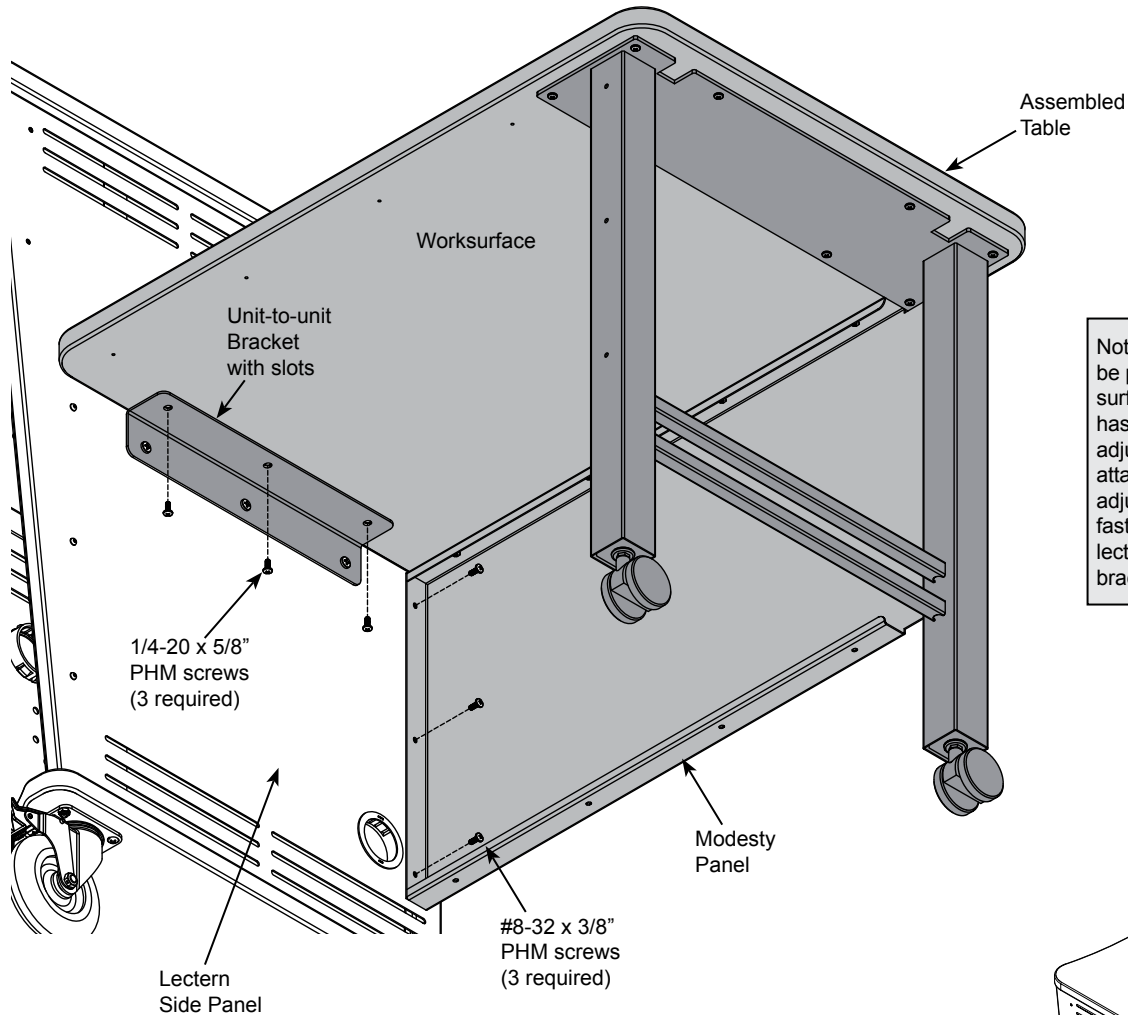

Figure 3A
2. Set the edge of the assembled table onto the previously installed unit-to-unit bracket. **Figure 3A.**
3. Align the bracket and worksurface mounting holes and attach with (3) 1/4-20 x 5/8" PHM screws (finger-tight only).
4. Align the modesty panel and lectern side panel mounting holes and attach with (3) 8-32 x 3/8" PHM screws.